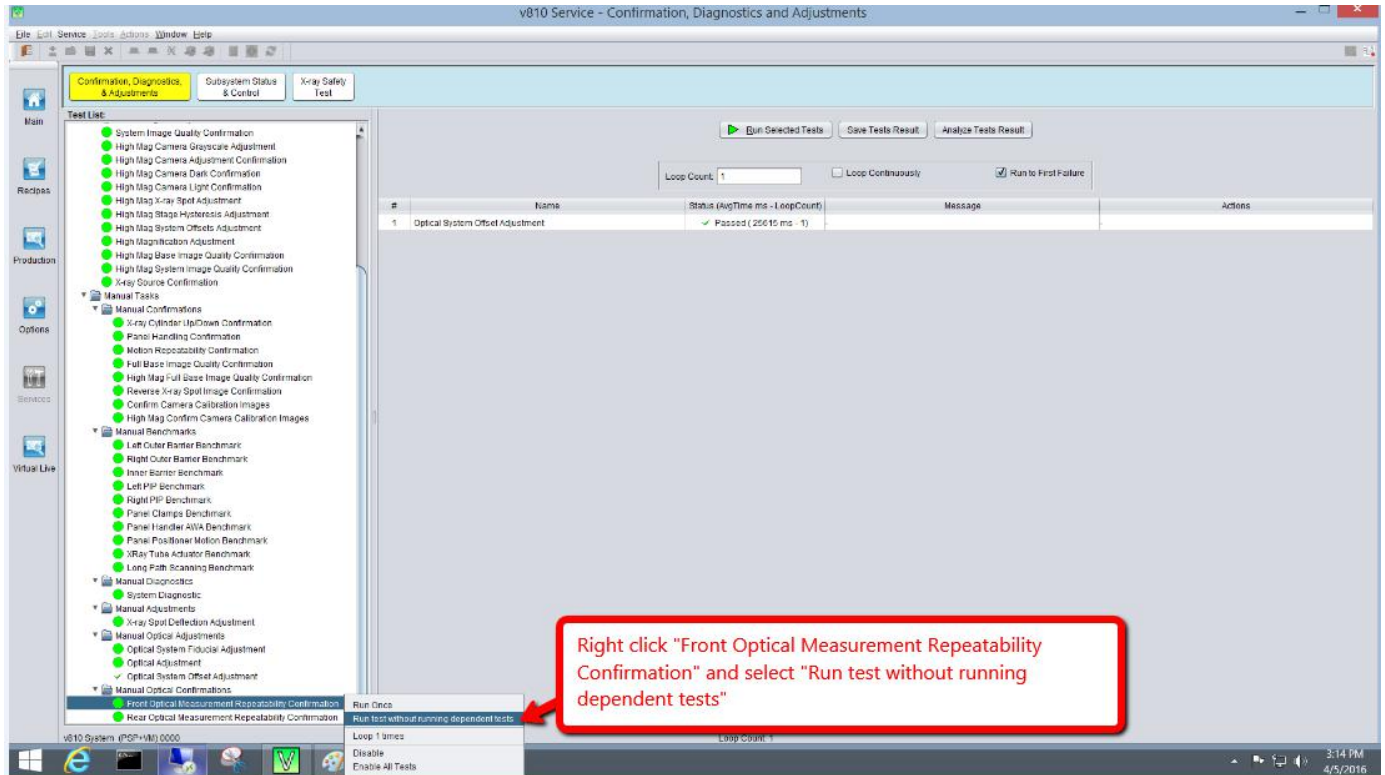

Figure 43 Repeatability test 50 micron
30. At **Confirmation, Diagnostics and Adjustment (CD&A)** , under the **Manual Optical Confirmation**, right click **Front Optical Measurement Repeatability Confirmation** and select **Run test without dependent tests** as shown in the Figure 43 below.